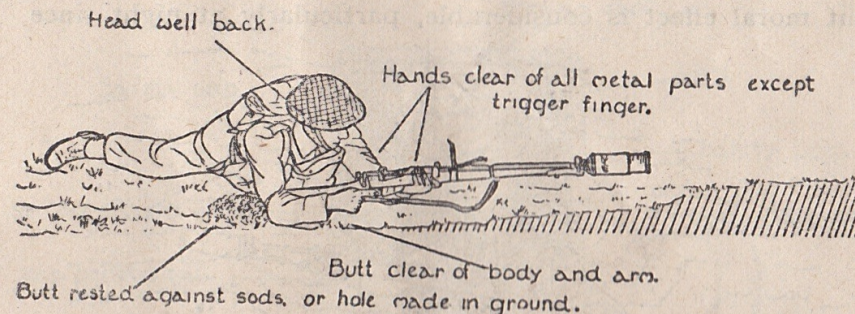

FIG. 14
- ii. *Aiming and firing.*—Adopt a position where the rifle can be held at a low angle (*see Fig. 14*).